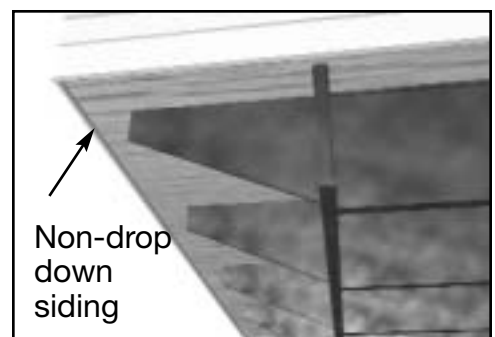

Fig. 6
2. **Non-drop down siding:** If the house does not have drop down siding and StoneSkirt is installed underneath the floor joist, L-trim is required. (Fig. 6)